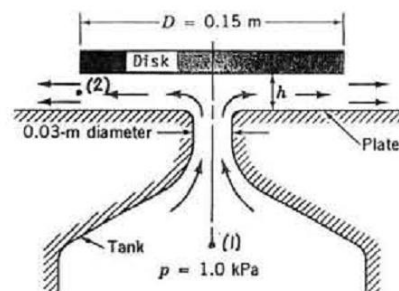

FIGURE P3.97
3.97 Air flows from a hole of diameter 0.03 m in a flat plate as shown in Fig. P3.97. A circular disk of diameter D is placed a distance h from the lower plate. The pressure in the tank is maintained at 1 kPa. Determine the flowrate as a function of h if viscous effects and elevation changes are assumed negligible and the flow exits radially from the circumference of the circular disk with uniform velocity.